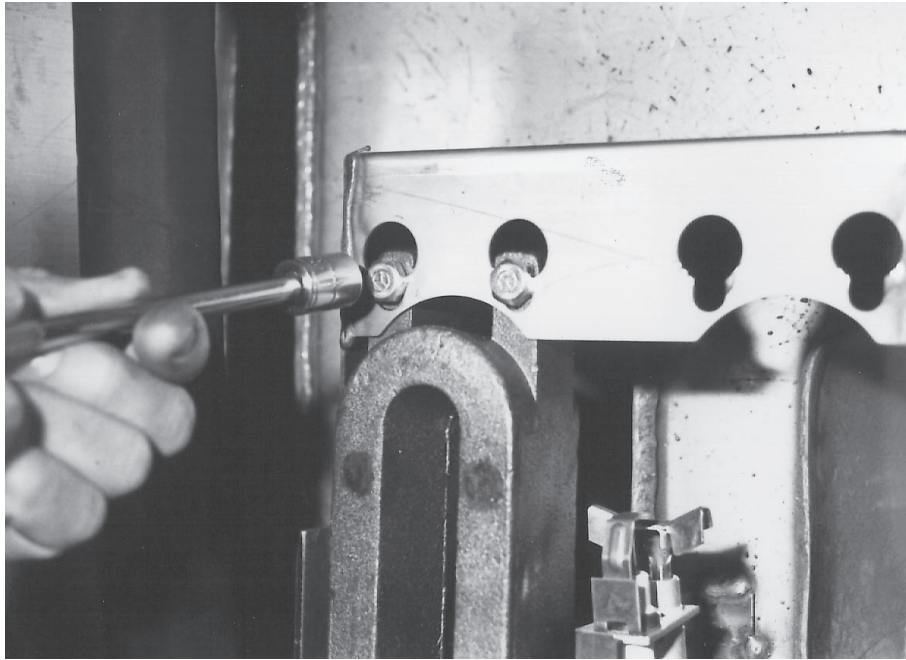

Fig. 41
5. With a 1/2" socket loosen (2) bolts that attach the burner to the mounting frame. (Fig. 41)